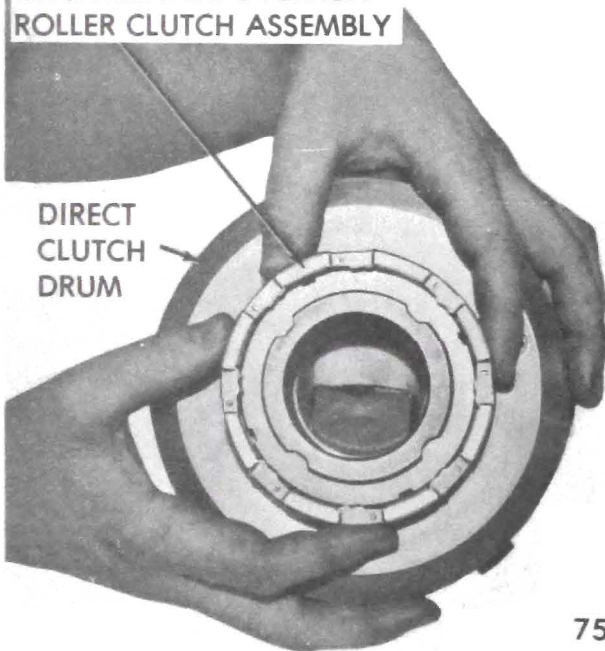

Figure 75-162
3. Remove intermediate overrun roller clutch assembly. See Figure 75-162.
8. Install intermediate overrun roller clutch assembly. See Figure 75-162.